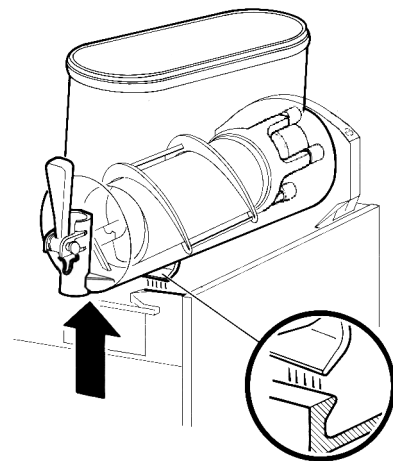
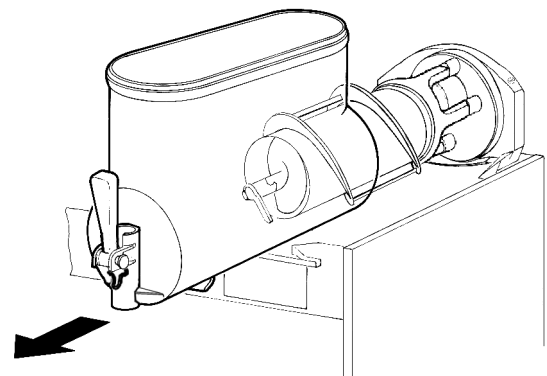

figure 4
figure 5
- 2 Remove the bowl by lifting its faucet side up and off the fastening hooks (see figure 4) and slide it out (see figure 5).